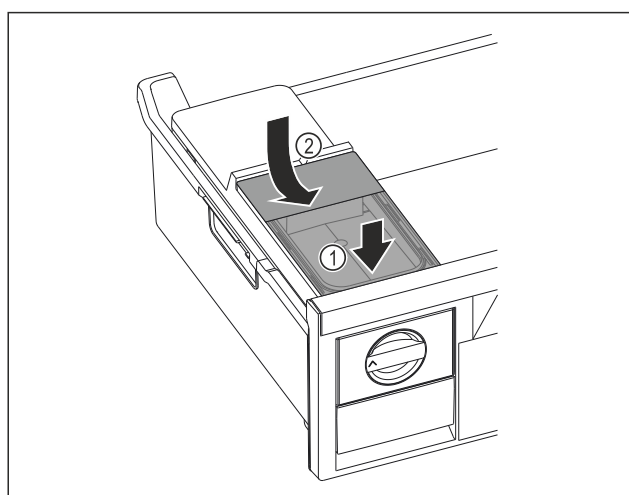

Fig. 71
- Position the water tank at the front. Fig. 71 (1)
- Lower the water tank at the rear. Fig. 71 (2)